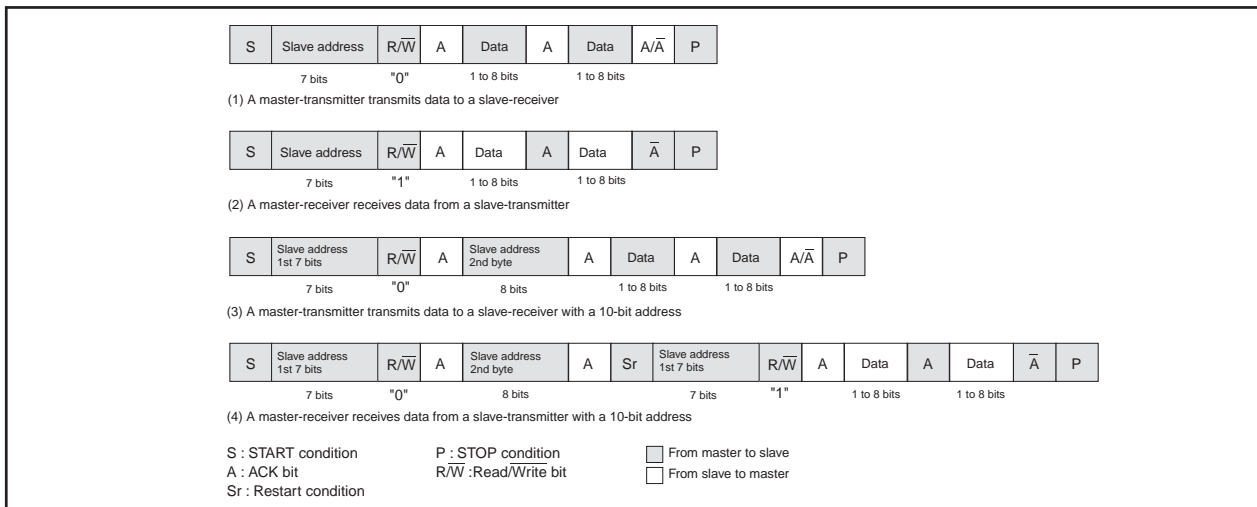

Fig. 13.14 Address data communication format
To meet the 7-bit addressing format, set the 10BIT SAD bit of the I²Ci control register to "0." The first 7-bit address data transmitted from the master is compared with the high-order 7-bit slave address stored in the I²Ci address register. At the time of this comparison, address comparison of the RBW bit of the I²Ci address register is not made. For the data transmission format when the 7-bit addressing format is selected, refer to Figure 13.14, (1) and (2).
When the first-byte address data matches the slave address, the AAS bit of the I²Ci status register is set to "1." After the second-byte address data is stored into the I²Ci data shift register, make an address comparison between the second-byte data and the slave address by software. When the address data of the 2nd bytes matches the slave address, set the RBW bit of the I²Ci address register to "1" by software. This processing can match the 7-bit slave address and R/ \bar{W} data, which are received after a RESTART condition is detected, with the value of the I²Ci address register. For the data transmission format when the 10-bit addressing format is selected, refer to Figure 13.14, (3) and (4).
(11) Example of Master Transmission